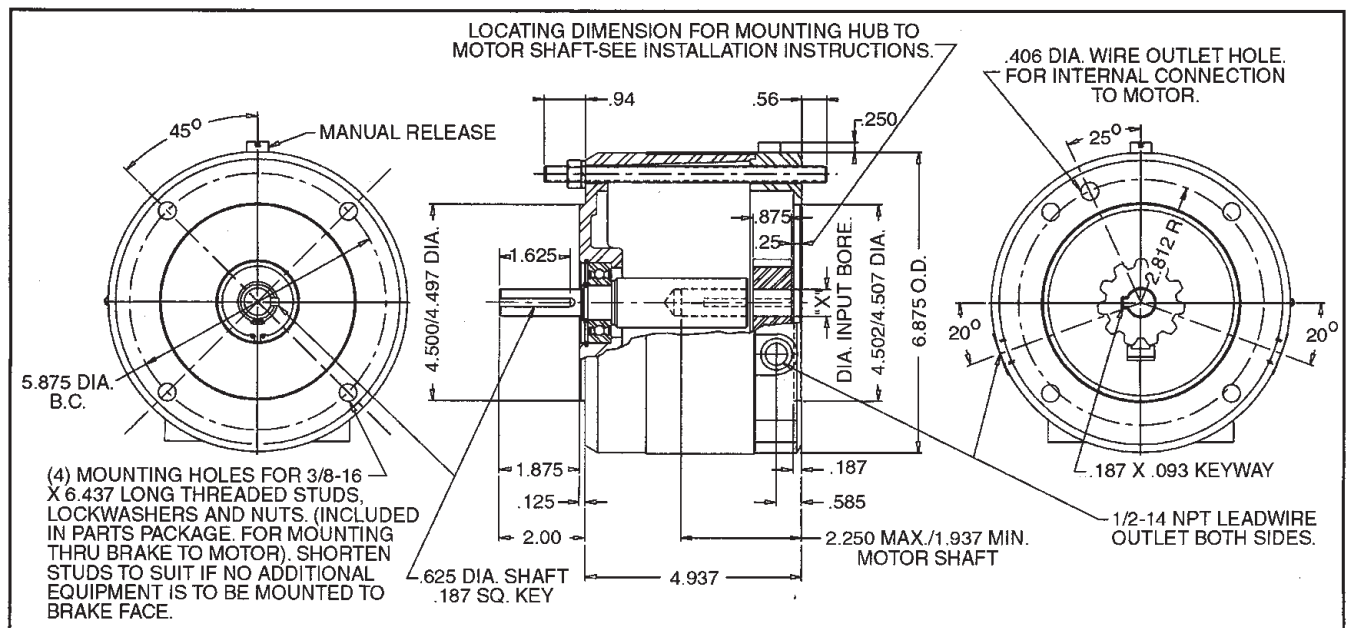

Figure 1
1. Mount hub (22) over key on motor shaft 1/4" from the motor mounting face as shown in Fig. 1. Part number on hub to face away from motor. Use 3/16" square key furnished for all models when adapter sleeve (32) is not used. Use 3/16" x 5/16" key furnished for Models 175132.00, 175154.00, and 175971.00 when adapter sleeve (32) is used. Key must extend to, and be flush with, end of motor shaft. Tighten both setscrews in hub with 8 to 10 lb. ft. torque.
2. Remove adapter housing (7). You may have to remove wrap cover (9) and tap lightly with a soft mallet in the openings in the side of the adapter housing. Place the brake assembly onto the motor C face, engaging hub splines into brake disc splines. The release should be located at the top.